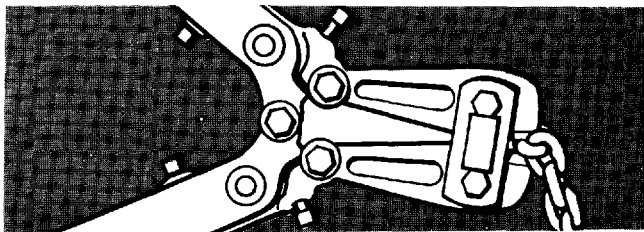

Figure 15. Cutting Chain with a Bolt Cutter
3. Use a bolt cutter (Figure 15) similar to the H. K. Porter No. 0590MTC with special cutter jaws for cutting hardened chain (1" long cutting edge).